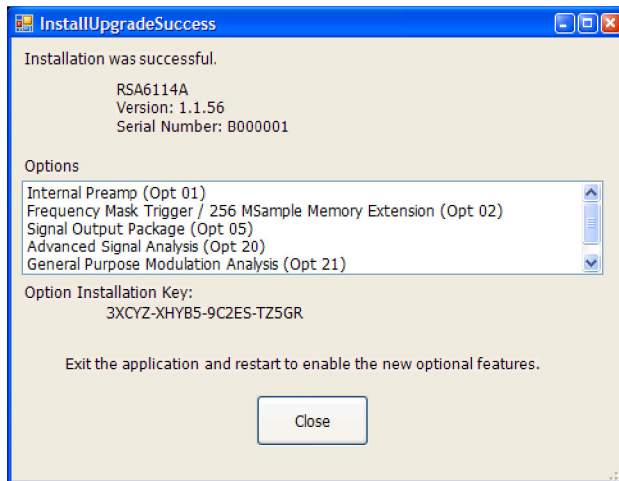

Figure 11: Upgrade success notification
3. Type the option installation key into the empty text box and click **Continue**. An Installation Success dialog opens, as shown in Figure 11.